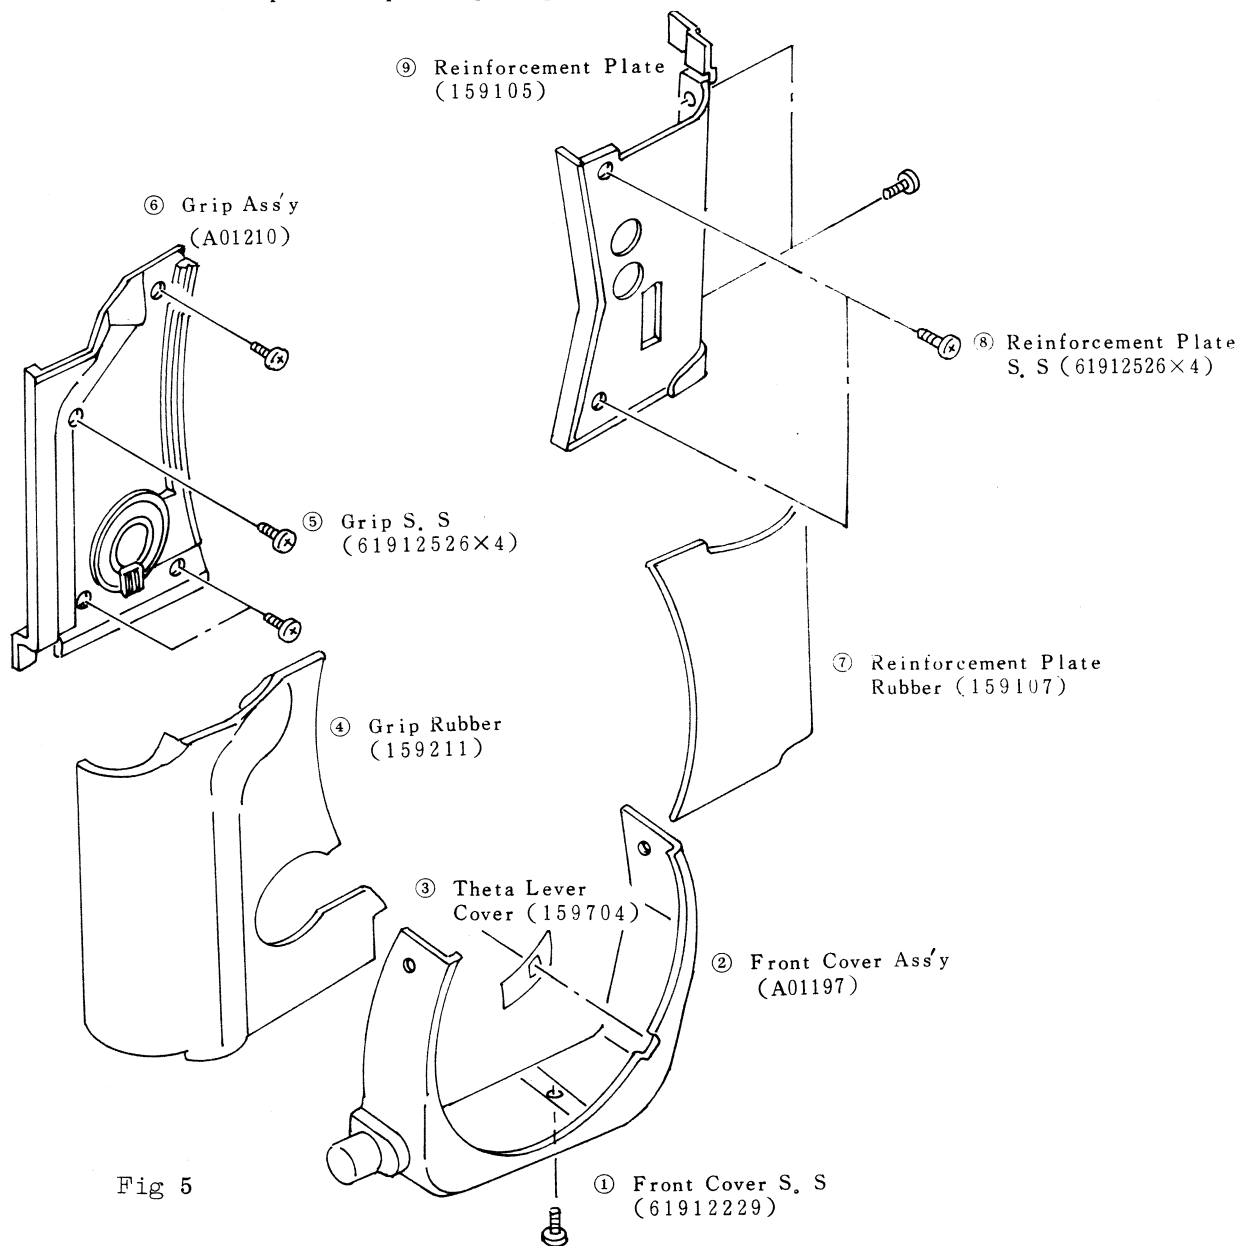

Fig 5
(3) Grip Ass'y and Reinforcement Plate;
Remove the respective parts ① ~ ⑨ shown in (Fig 5) in numerical order.